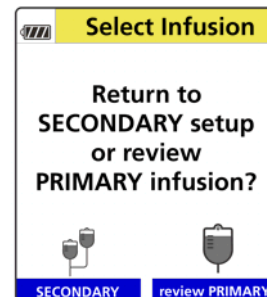

Figure 113. Select Infusion Screen.
5. When no additional flushes are available (maximum of 3), a Select Infusion screen displays to return to the Secondary Setup or Review Primary infusion. See Figure 113.